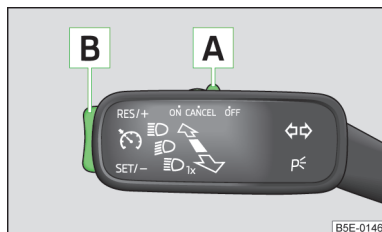

Fig. 133
- Move switch » Fig. 133 into the ON position.
- Move switch » Fig. 133 into the OFF position.
- Push the rocker button into the SET/- » Fig. 133 on page 147 position.
- Push the rocker button into the RES/+ » Fig. 133 on page 147 position.
The stored speed can be **reduced** by pushing the rocker switch into the SET/- » Fig. 133 on page 147 position.
The cruise control system is **temporarily switched off** by pressing the switch » Fig. 133 on page 147 into the spring-tensioned position CANCEL or by depressing the brake pedal.